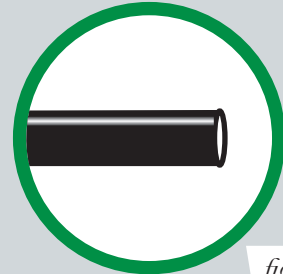

fig. 16
When cutting air lines, use a sharp knife or a hose cutter and make clean, square cuts (Fig. 16). Do not use scissors or wire cutters because these tools may deform the air line, causing it to leak around fittings. Do not cut the lines at an angle.
- a. Check the air line connection by deflating the spring and removing the line by pulling the collar against the fitting and pulling firmly on the air line. Trim 1" off the end of the air line. Be sure the cut is clean and square (see Fig. 16). Reinsert the air line into the push-to-connect fitting.